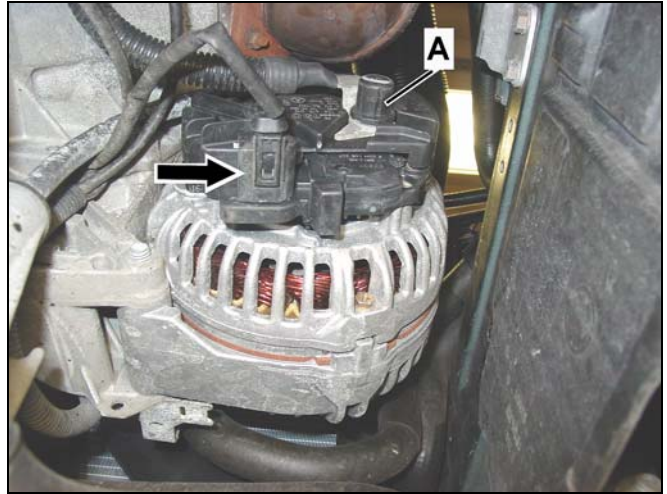

Figure 4 (shown on model 208)
- Disconnect circuit 61 harness connector (arrow, Figure 4) from regulator.
- Remove circuit 30 terminal cover (A)